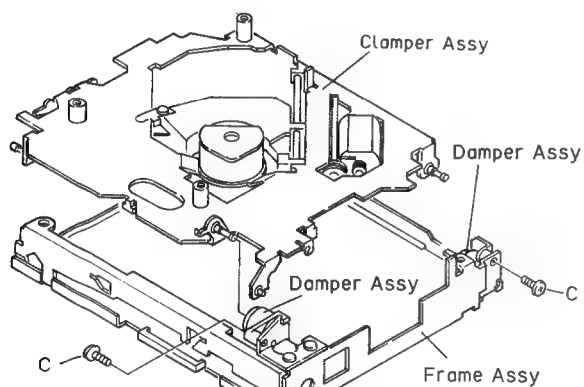

Fig.15
- 7.Remove the frame assy from the mechanical parts. (Fig.15)
- 8.Remove the two screws C, and then remove the damper assy.(Fig.15)
- 9.Remove the clamper assy as shown in Fig.15.